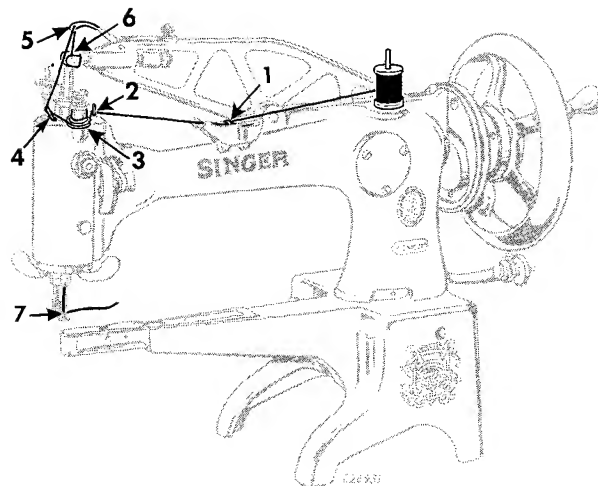

Fig. 19. Threading Needle
1. Place the spool of thread on the spool pin so that thread will draw from the rear side of spool. See Fig. 19.
2. Raise the wire guide in the oil cup on top of the arm and pass thread under guide 1 then press guide back into position. See Fig. 19.